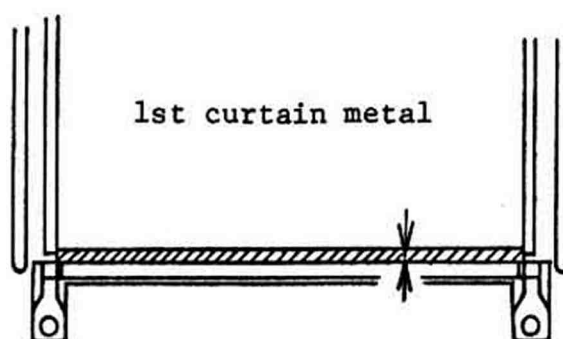

Fig. 50
- b. The 1st curtain metal must not remain in the film format as shown in Fig. 50.